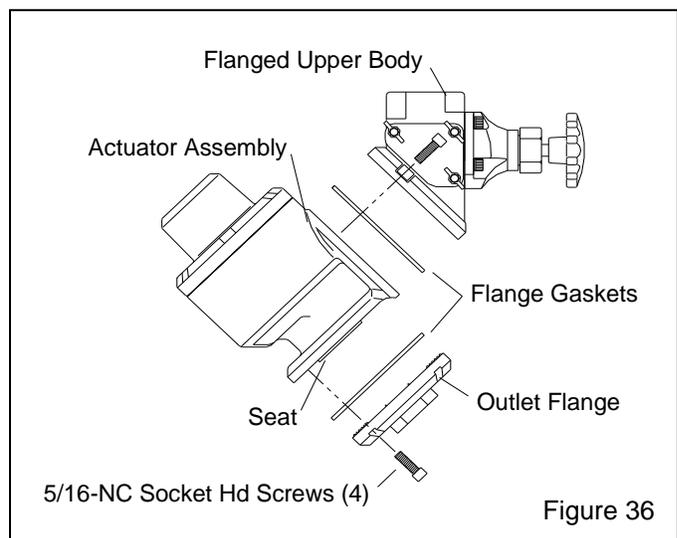

Figure 36
7.7 Auto Quantum Metering Valve Actuator Segment – Figures 36 and 37
7.7.3 Refer to Figure 36 and remove the screws securing the upper body and outlet flange to the valve actuator assembly, and then remove the actuator assembly.